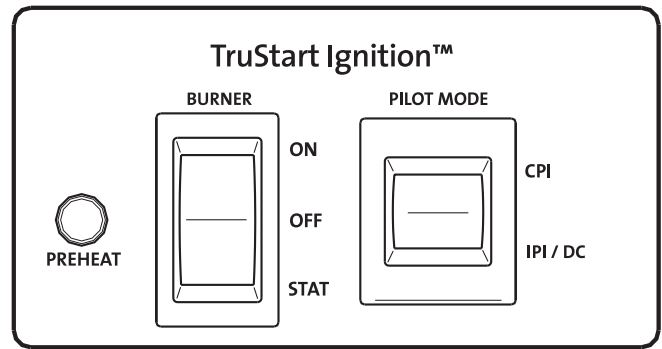

Figure 44. Burner controls.
- Burner function may be manually controlled by placing the burner switch in the ON/OFF position, fig. 44. In the ON position, the preheat light will come on indicating Draw Collar activity. Within about 2-3 minutes, the pilot will ignite followed by main burner ignition. This is the normal operating position for manual control.